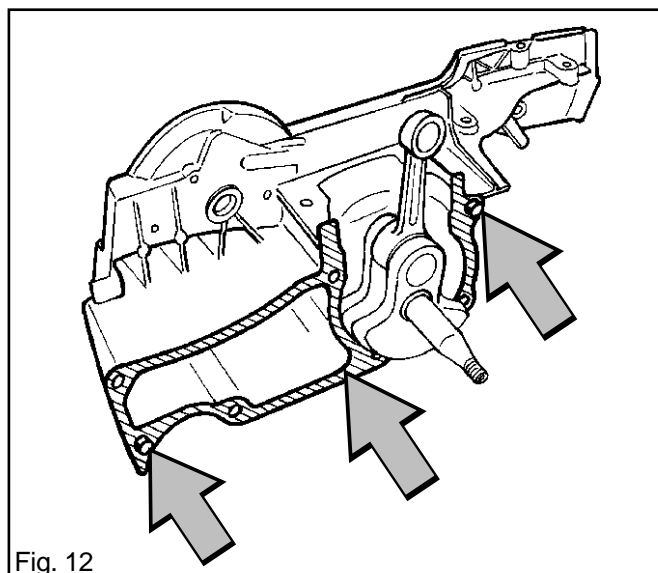

Fig. 12
4. Locate the guide pegs in the clutch side crankcase half, grease and locate the gasket. See fig. 12.